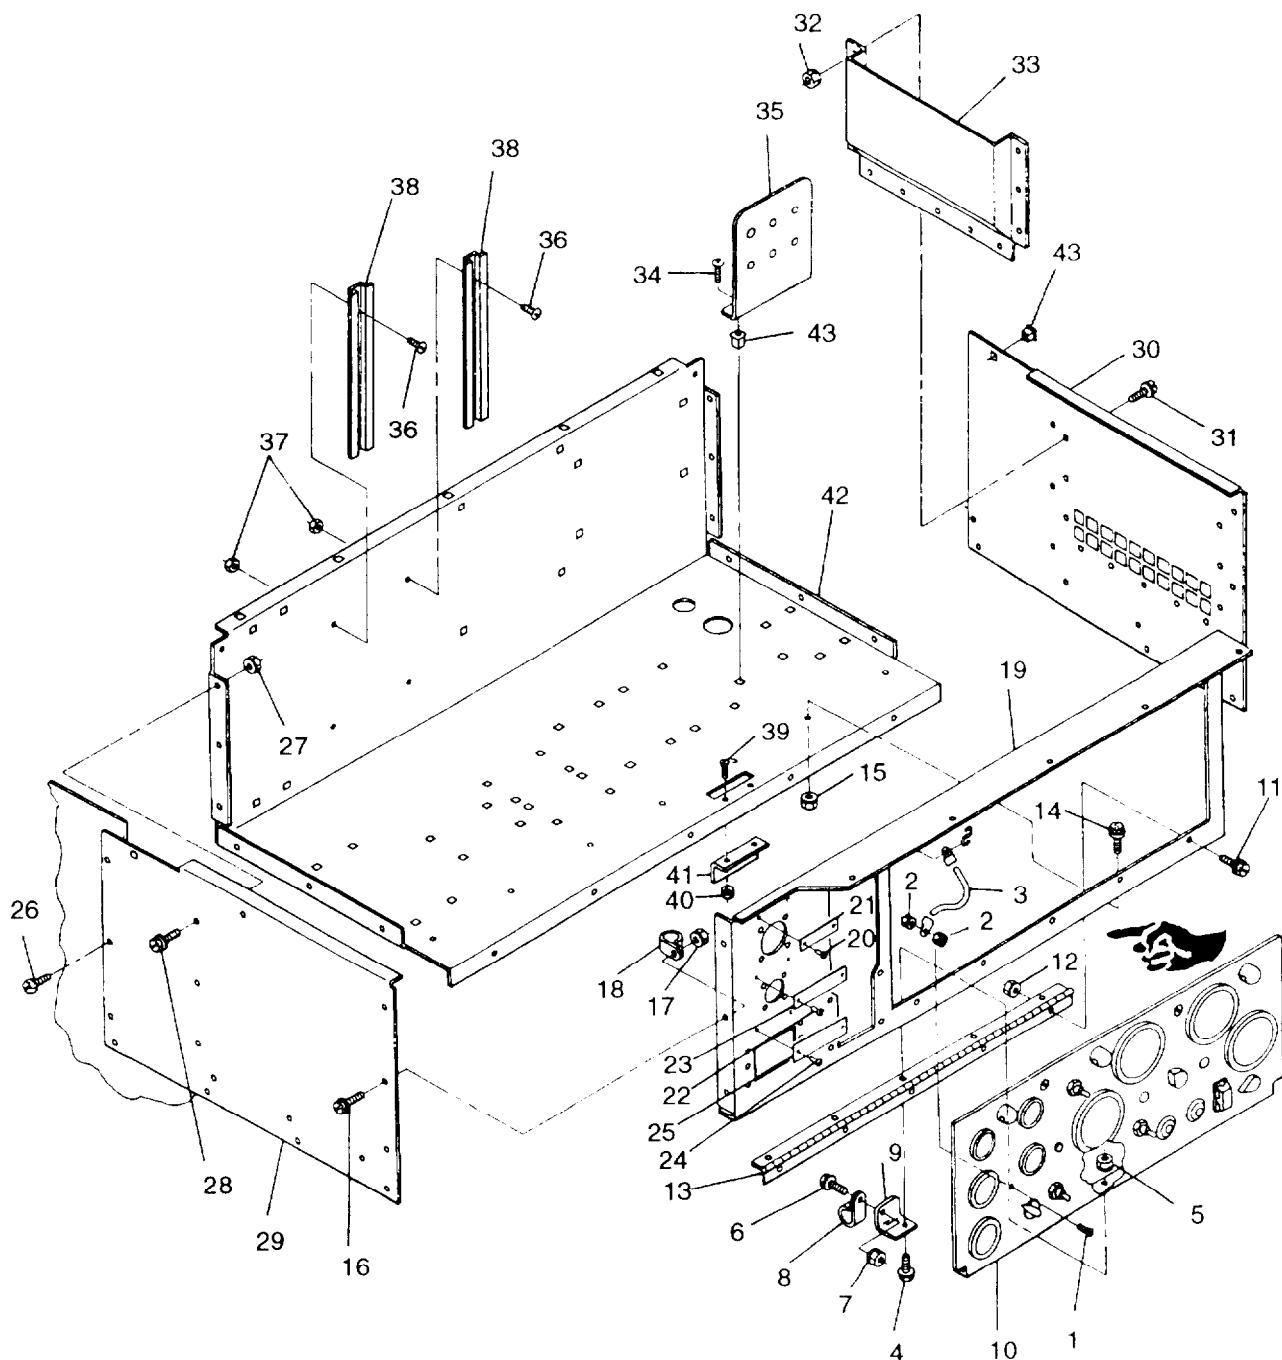

FIGURE 2-19. Control Box Panels
Inspect control panel (10, FIGURE 2-19) for dents, cracks, loose paint, and corrosion
- f. Tag and disconnect all electrical leads to remaining indicators and switches on control panel (10, FIGURE 2-19).
- g. Remove screw (1), nuts (2), and strap (3).
- h. Remove bolts (4) and (6), nuts (5) and (7), bracket (9), clamp (8), and control panel (10) from control box assembly.
- i. Remove bolts (11), nuts (12), and hinge (13) from control box assembly.
- c. Repaint surface in accordance with TM 43-0139. (F) Refer to applicable directives.
- a. Install hinge (13, FIGURE 2-19) on control box assembly with bolts (11) and nuts (12)
- b. Install control panel (10), clamp (8), and bracket (9) on control box assembly with bolts (4) and (6). and nuts (5) and (7).
- c. Install strap (3) on control panel (10) with screw (1) and nuts (2)
Inspect control panel frame (19. FIGURE 2-19) for dents, cracks, loose paint, and corrosion.
- h. Remove bolts (14 and 16, FIGURE 2-19), nuts (15) and (17), clamp (18), and control panelframe (19) from control box assembly.
- i. If necessary, drill out rivets (20), (22), and (24) and remove identification plates (21), (23), and (25).
- l. Repaint surface in accordance with TM 43-0139. (F) Refer to applicable directives.
- a. Install control panel frame (19, FIGURE 2-19) and clamp (18) to control box assembly with bolts (14) and (16) and nuts (15) and (17).
- b. If removed, install identification plates (21), (23), and (25) on rear panel (19) with rivets (20), (22), and (24).
- a. Inspect side panels (29 and 30, FIGURE 2-19) and air deflector (33) for dents, cracks, loose paint, and corrosion.
- b. Inspect for missing or damaged cage nuts (43).
- d. Remove bolts (16, 26, and 28, FIGURE 2-19), nuts (17) and (27), and control box side panels (29) and (30) from generator set.
- e. Remove bolts (31), nuts (32), and air deflector (33) from side panel (30).
- a. Apply a light coat of sealant (Item 16, Appendix C) to flanges of air deflector (33 FIGURE 2-19).
- b. Install air deflector (33) on control box side panel (30) with bolts (31) and nuts (32).
- c. Install control box side panels (29 and 30, FIGURE 2-19) on generator set with bolts (16), (26), and (28) and nuts (17) and (27). Ensure center bolt (16) and nut (17) on left side panel secures clamp (18).
- f. Inspect control box bottom (42, FIGURE 2-19) for dents, cracks, loose paint, and corrosion.
- g. Inspect for missing or damaged cage nuts (43).
- h. Remove screws (34, FIGURE 2-19) and bracket (35) from control box bottom (42).
- i. Remove screws (36), nuts (37), and relay tracks (38) from control box bottom (42).
- j. Remove screws (39), nuts (40), and latch plate (41) from control box bottom (42).
- a. Install latch plate (41, FIGURE 2-19) on control box bottom (42) with screws (39) and nuts (40).
- b. Install relay tracks (38) on control box bottom (42) with screws (36) and nuts (37).
- c. Install bracket (35) on control box bottom (42) with screws (34).